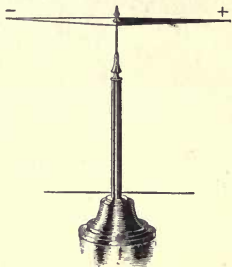
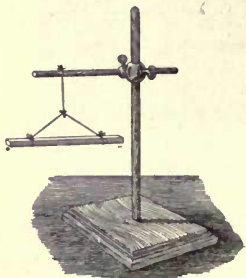

FIG. 187. A convenient form of magnetic needle for laboratory use.
FIG. 190.
Some magnets are straight and are known as bar magnets (Fig. 185). Some are U-shaped and are called horseshoe magnets (Fig. 186). The needle of a compass is a light bar magnet. A convenient form of a magnetic needle for laboratory use is shown in Figure 187.
Place the needle back on its support and bring a piece of iron near either end. Does the iron also attract the needle at both ends? A bar magnet, suspended as shown in Figure 190, may be used in this experiment if a suitable compass needle is not at hand.
**Exercise 8.** Present to either end of a magnetic needle (Fig. 187) or of a suspended bar magnet (Fig. 190) the north and south poles of a second bar magnet. What results do you get?